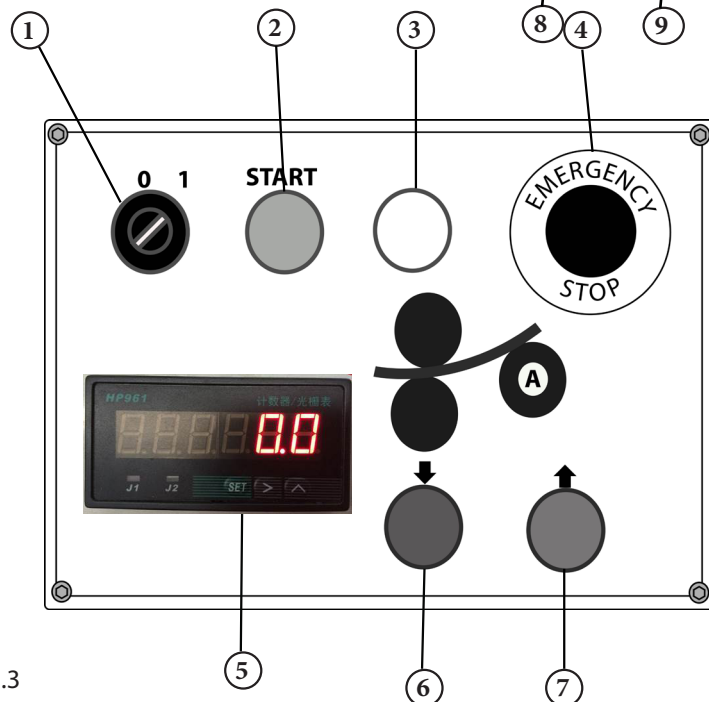

Fig 5.3
- e. Press the start button to commence operation (Fig. 5.3)